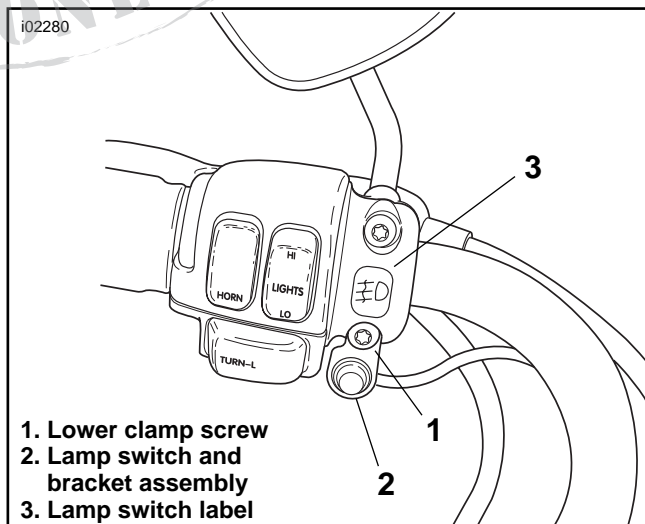

Figure 7. Install the Lamp Switch on the Clutch Control Clamp (1996 and Later Shown)
15. See Figure 7. Remove the lower screw (1) and washer from the clutch control clamp, and install the lamp switch and bracket assembly (2). Install the screw and washer and tighten to 60-80 **in-lbs** (7-9 Nm).